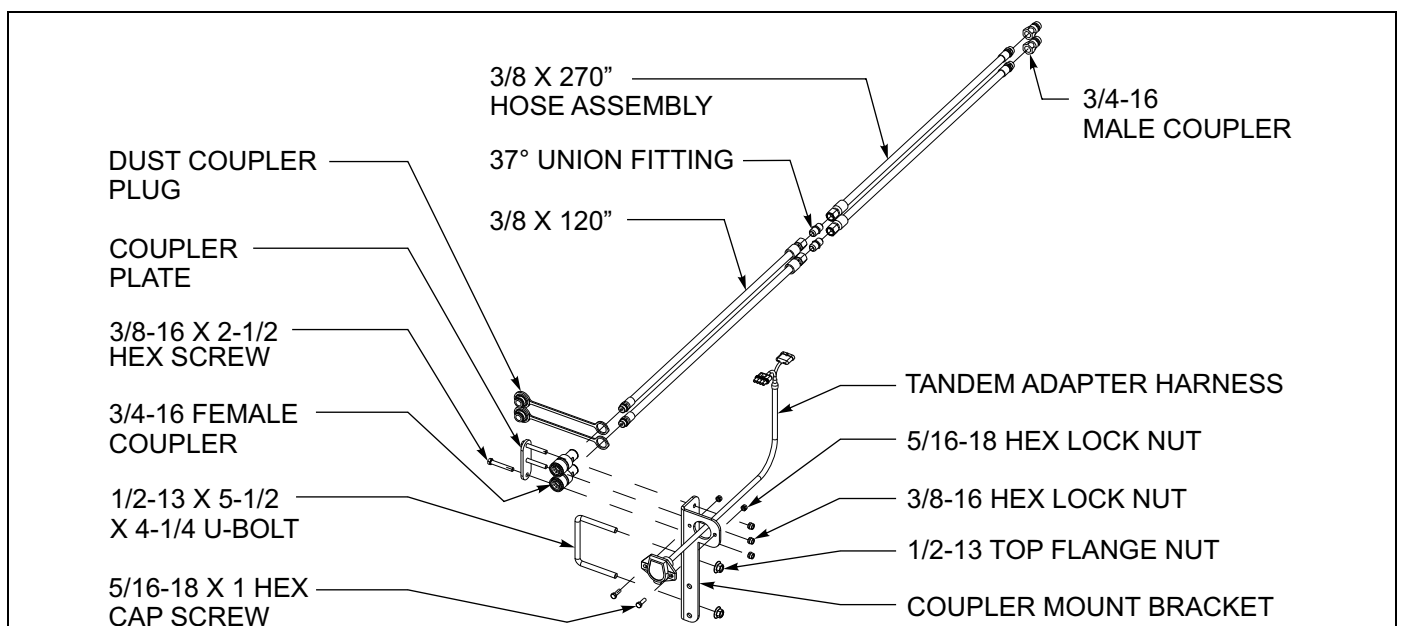

Figure 3-14: Rear Tow Hitch Hydraulic Installation
2. Attach coupler mount bracket to the left side of the rear tow hitch plate using 1/2-13 x 1-1/4 hex head cap screws and hex lock nuts (See Figure 3-14.)